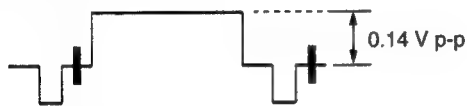
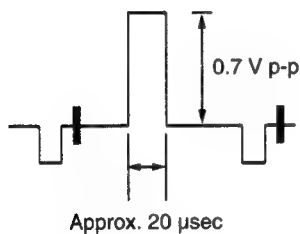

Fig. 1. NTSC All Gray Signal (With Burst)
Fig. 2. NTSC Window Signal (With Burst)
2. Input the all gray signal (Fig. 1) into LINE A.
6. Input the window signal (Fig. 2) into LINE A.
11. Repeat steps 2 and 10 so that the luminance and white balance of the cutoff side (Fig. 1) and drive side (Fig. 2) become the specifications shown in Table 1.